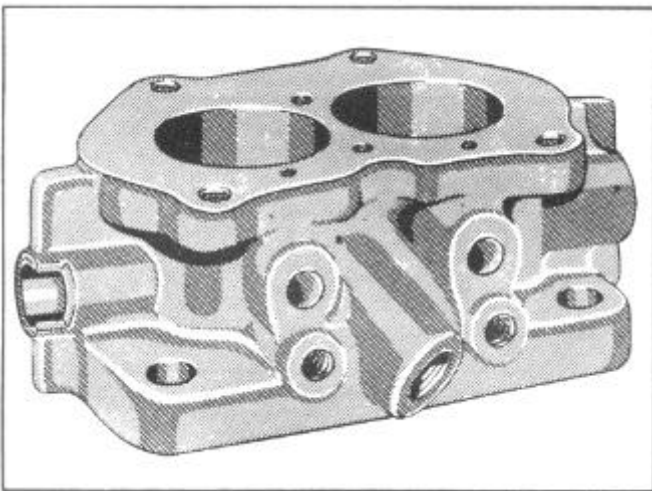

FIGURE 59
7. Remove all parts from the body flange assembly, Figure 59.